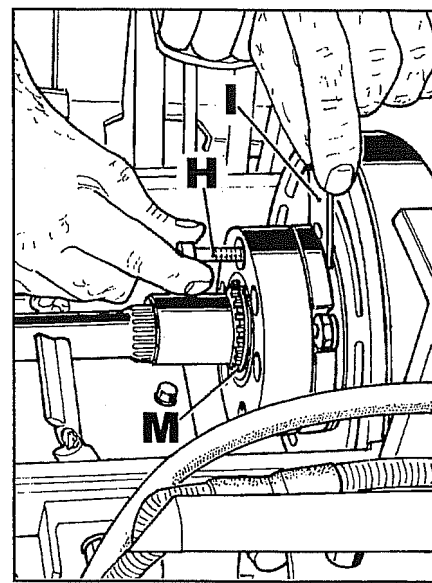
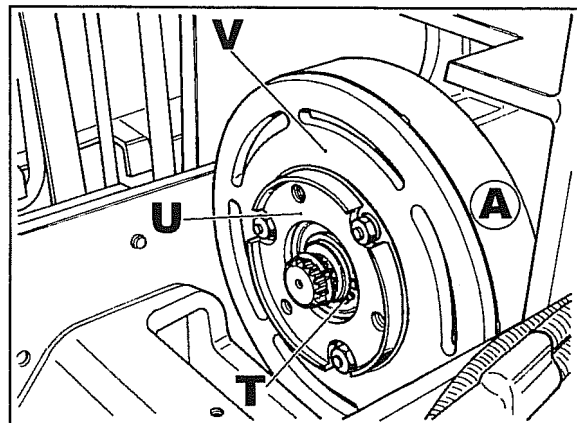
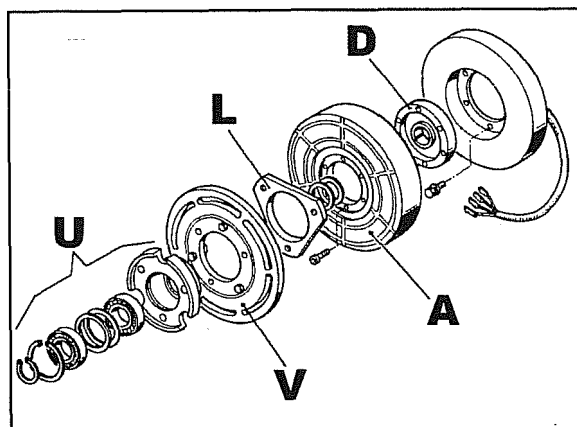

Fig. 9
Fig. 11
Fig. 14
- 6.2 If due to wear the gap between the disks is at least **1.6 mm**, shim them by slackening off the three screws **H** fig. 9, remove the screws one at a time and insert the spacing washers **I** as shown in the Figure. Spacing washers **I** are 1 mm thick.
NB - If there is friction or the spacing washers cannot be inserted, dismantle the clutch and lower flange **L** fig. 14.
8. Remove screws **H** fig. 9 and snap ring **M**.
9 Remove snap ring **T** fig. 11 and slip out the bearing carrier hub **U** complete with disk **V** and flange **L** fig. 14.
11 Remove **A** fig. 11.
Fig. 14 illustrates the electromagnetic clutch parts.
If disks **V** and **A** fig. 14 or flange **D** are changed in the operations described above because the spline breaks, the disks will have to be shimmed following this procedure:
- Reassemble the bearing carrier hub **U** fig. 14 with disk **V** and flange **L**. Remove any spacer washers used for previous registrations (**I** fig. 9).